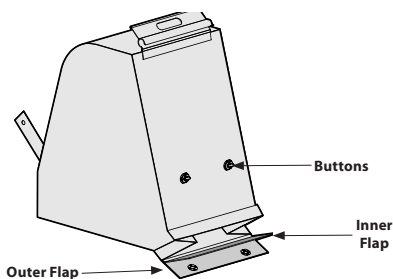

Figure 10
- Twist the two buttons on the back of the bag to unlock and empty contents. See Figure 10. Hold bag handle and bag clip while emptying the contents.
- Fold outer flap over inner flap and insert buttons on the bag through metal outlets. See Figure 10.